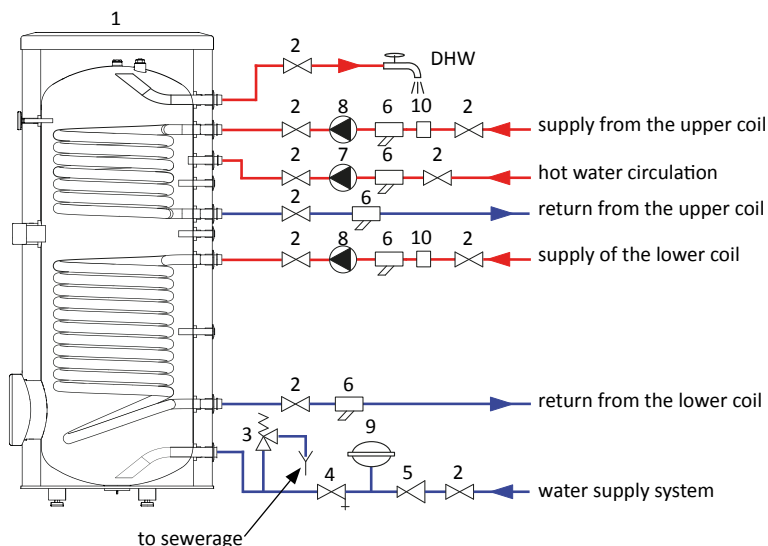

Fig. 9 Installation diagram of the BA-ST storage tank with two coils.
Connect the heating and water supply systems in accordance with the installation diagram (see Fig. 9.)
In order to minimize the flow of water from the safety valve associated with the thermal expansion of the liquid, it is advisable to install a suitable expansion vessel at the cold water connection (see Fig. 9 item 9.)
3. Cut-off the hot water supply and drain some water from the tank through the drain valve (see Fig. 9 item 4).
4. Remove the housing cover together with thermal insulation (1).
5. Remove the anode protective conductor (2).
6. Remove the worn magnesium anode (3).